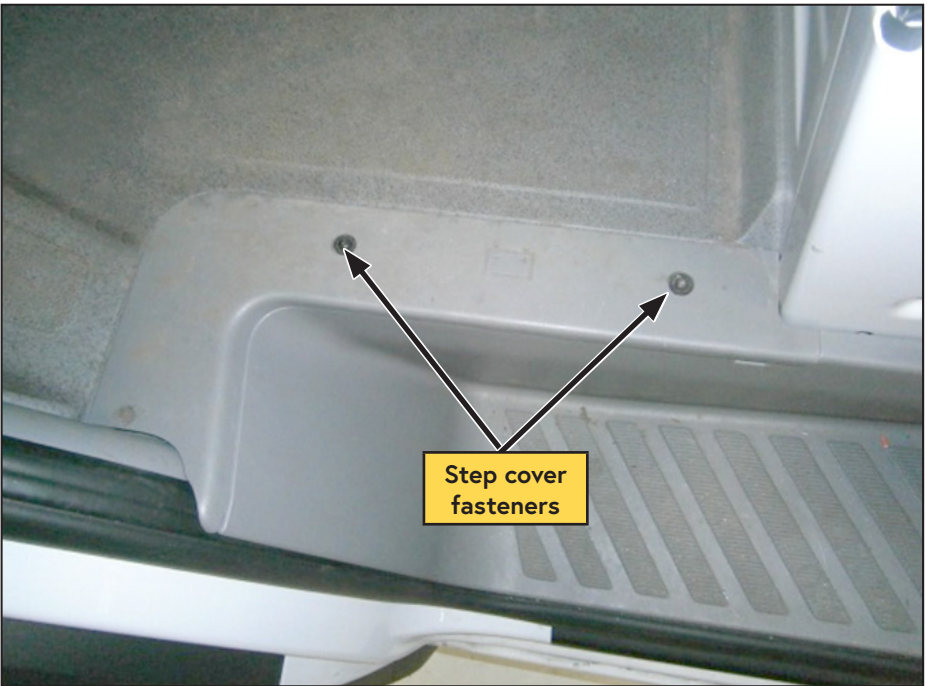

Figure 1 — Remove step cover and mat
- Remove the driver side step cover and floor mat (Figure 1).